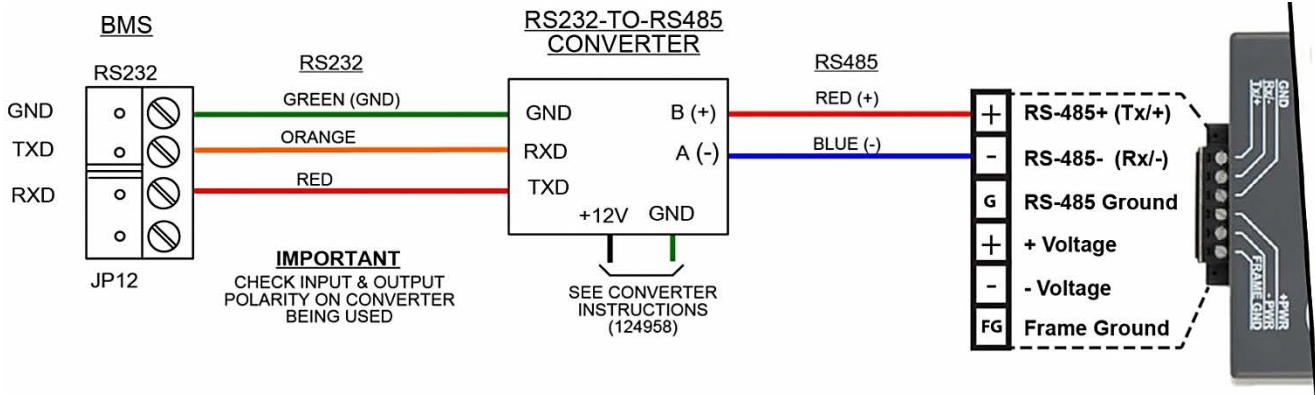

FIGURE 3-6: RS-232 Connection to BMS
- Refer to Figures 3-6 and 3-7 to locate the internal RS-232 connector JP12 (BMS) or JP5 (BMS II/ACS) inside the wiring area of the ACS/BMS II.
- On the RS-485 side of the converter (Figure 3-6 and 3-7), connect the wire leads as follows: